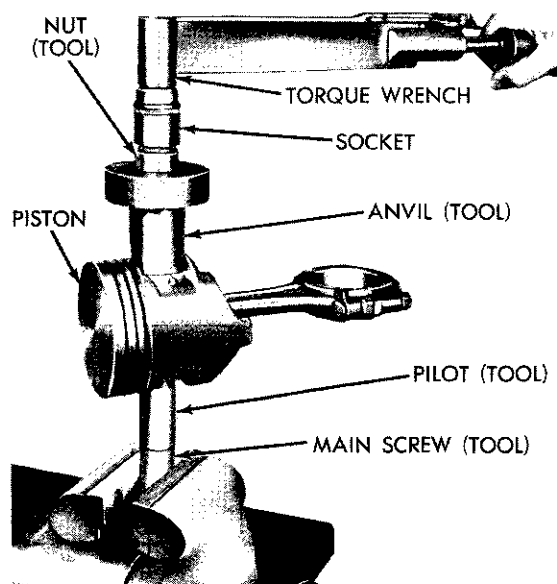

Fig. 42—Testing Fit of Piston Pin in Connecting Rod
(11) Place assembly in a vise (Fig. 42).
(12) Attach torque wrench to nut and tighten up to 15 foot-pounds. If the connecting rod moves downward on piston pin, reject this connecting rod and piston pin combination. Obtain a connecting rod with